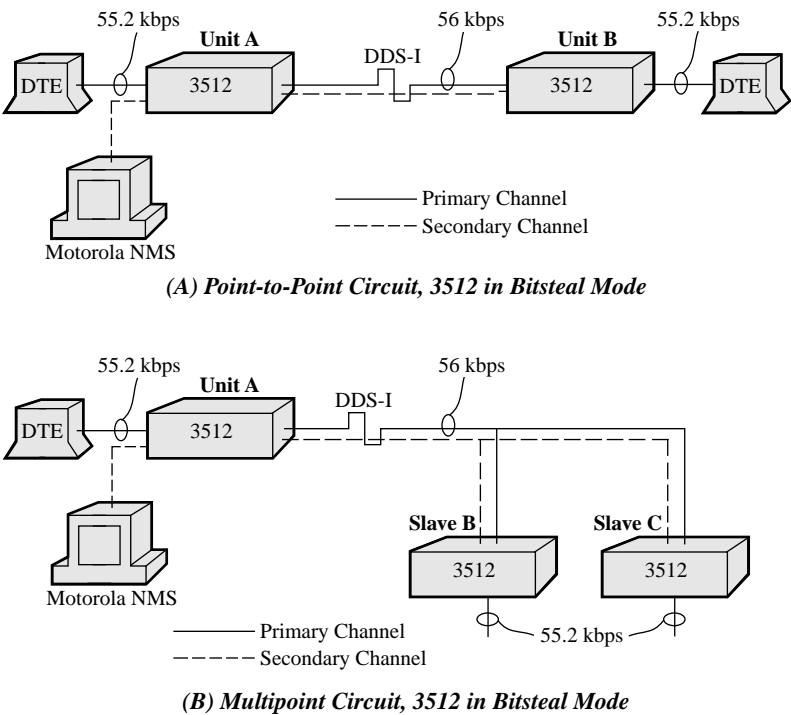
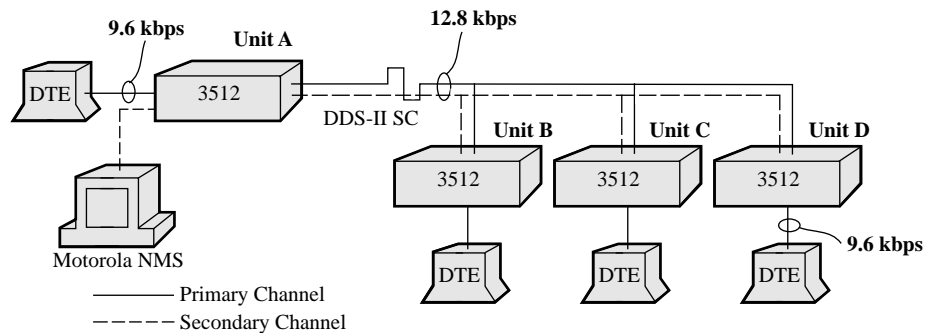

Figure 6-4. DDS-I Derived Secondary Channel Using Bitstealing
Figure 6-8. DDS-II SC Multipoint Circuit
Point-to-point and multipoint circuits using Bitstealing are shown in Figure 6-4 (A) and (B). If the line rate is 56.0 kbps, the DTE port is allocated 55.2 kbps; framing and control data use the remaining bandwidth. Most synchronous DTEs and devices, such as Motorola statistical multiplexers, can operate at these nonstandard port rates. In this configuration, the 3512s provide a non-interruptive control channel similar to that of DDS-II SC type service. Bitstealing mode is available for single-channel applications at 64.0 kbps or subrates.
Point-to-Point Circuit, Figure 6-4(A):
Multipoint Circuit, Figure 6-4(B):
The 3512 supports a **multipoint DDS-II SC circuit in Main Channel mode**, as shown in Figure 6-8. This way, you obtain standard DTE rates *and* non-interruptive network management. This is similar to the DDS-I circuit shown in Figure 6-4 (B).
The 3512 supports the **64 kbps Clear Channel (64k CC)** service, as shown in Figure 6-8. This service, available for point-to-point circuits, allows data transmission at a line or port rate of 64 kbps. With 64k CC, network management is available only in the non-interruptive modes (bitstealing and muxed); the bandwidth available to user applications is approximately 63.2 kbps.